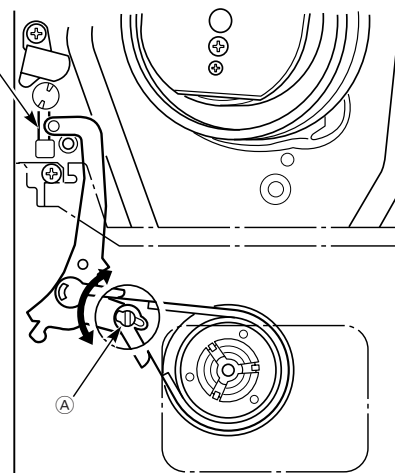

Fig. 9.1
- Set the brake band adjuster A so that the tip of the lever (Pos. 40100) is between the two lines on the mechanism chassis (Fig. 9.1).